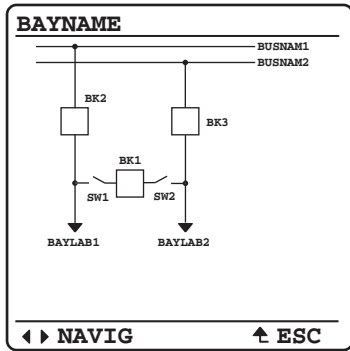
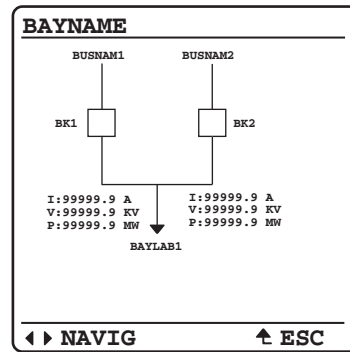

Figure 10 Breaker-and-a-Half
Figure 13 Source Transfer Bus
*Figure 10–Figure 13* are examples of some of the many selectable one-line diagrams in the SEL-451. Select the one-line diagram from the Bay settings. Additional settings for defining labels and analog quantities are also found in the Bay settings. One-line diagrams are composed of the following: